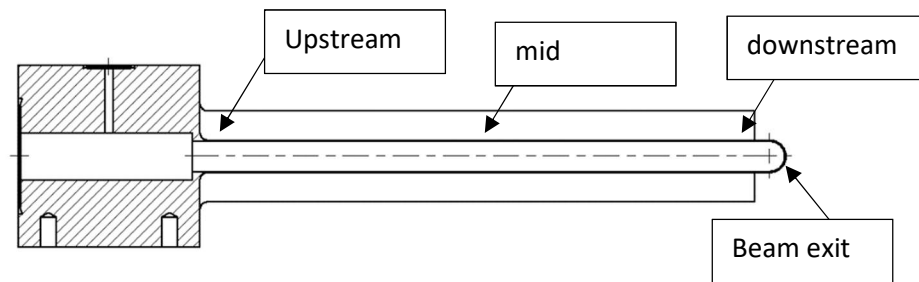

Figure 1: Main body measurement locations
- b. Measure main body beam right side wall thickness at using 10 measurements at each location: upstream, mid and downstream as shown in the Figure 1 below. Record the average and standard deviation on the report form below.